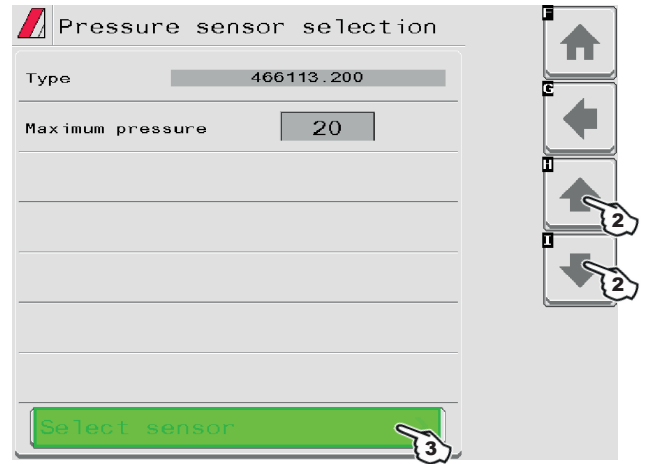

Fig. 47
- 1 Set installed pressure sensor by selecting it from the list in Fig. 47 (use keys 2 to scroll items, and key 3 to confirm).